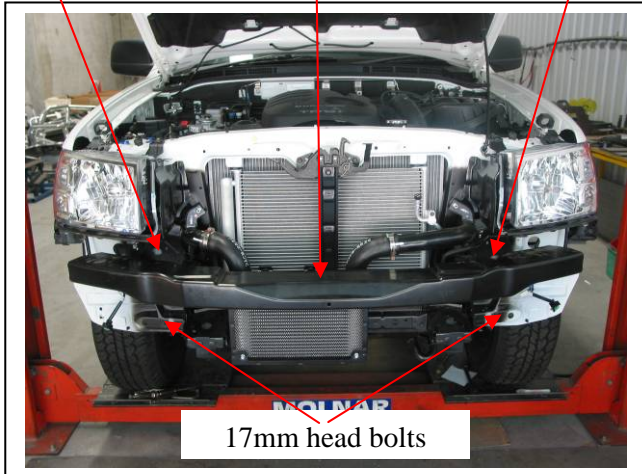

Figure 1
3. Remove bumper cover support. Access from under front of support, two 17mm head bolts (one each side) and inside engine bay on top of chassis rail. Two 17mm head bolts (one each side). **See figure 1.**